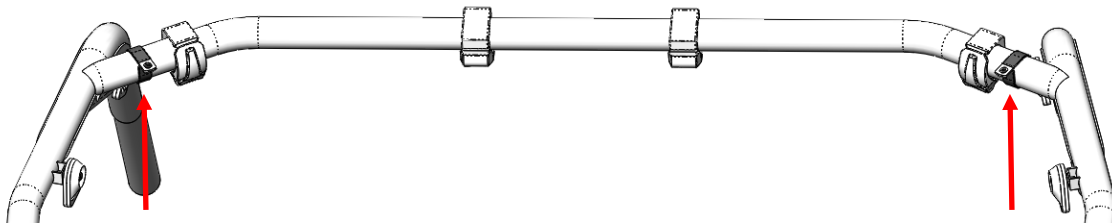

Figure 3: Approximate locations of the loop clamps.
2. Place the provided loop clamps in the approximate mounting location on the front roll bar. The *Audio Mini* brackets will rest on the loop clamps and be tightened in the following steps. See Figure 3.